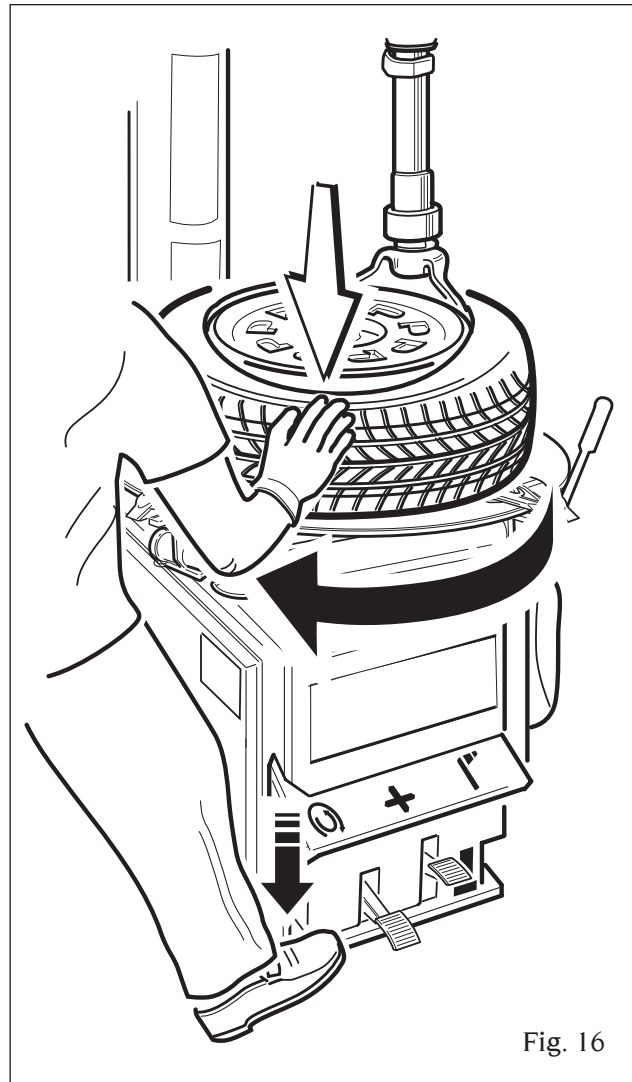

Fig. 16
- Once the bottom bead is completely mounted, repeat the same steps for the upper bead (Fig.16).